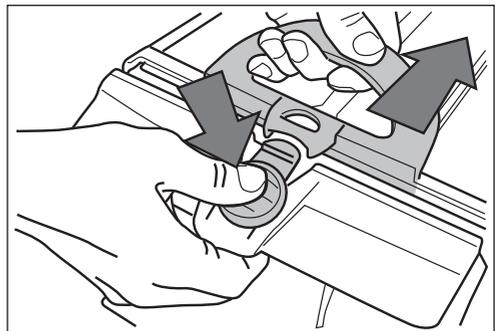

Figure 13. Open Filter Canister Assembly
5. Push the quick release button on the canister assembly and pull open. See Figure 13,